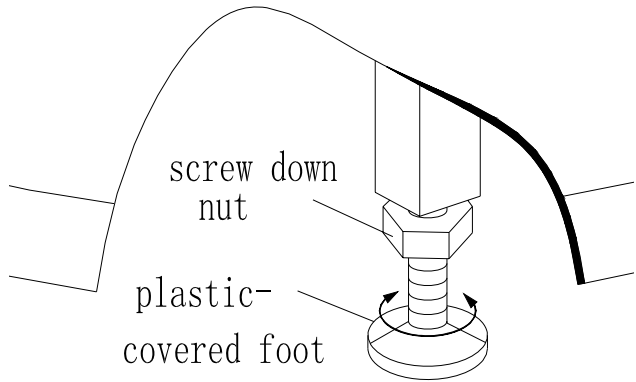

Fig. 2
1. Adjust the bottom-feet ---move the bathtub to the suitable place, adjust the fang bolt of bottom, to make all of the plastic covered feet touch the ground. (As the Fig.2)